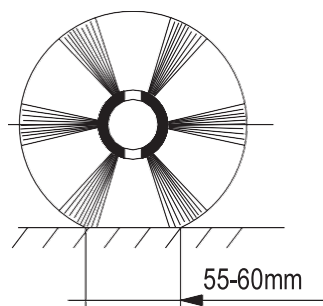

FIG. 5
- JUSTER PENSLENS TRYK, SÅ DEN RENE VEJ IKKE OVERSTIGER 55-60 MM (FIG. 5).